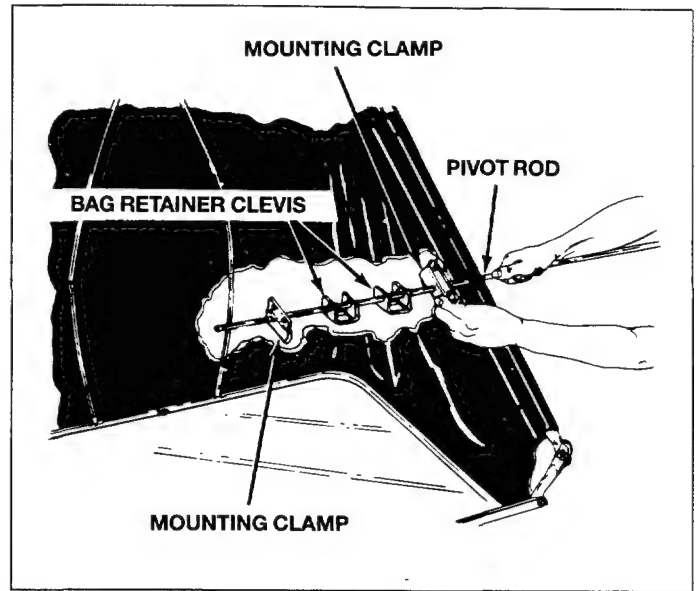

Fig. 23
13. Slide pivot rod through holes in side of upper hopper tubes that you just pierced in step 12. Slide one mounting clamp onto rod, next slide two bag retainer clevises and one more mounting clamp before rod is pushed into other hole on opposite side of bag. See figure 23.